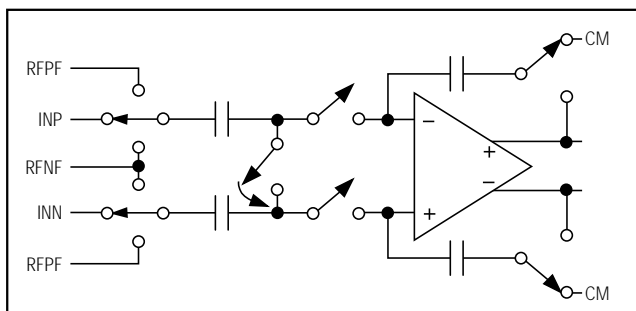

Figure 2. Simplified MDAC Architecture
Fully differential switched-capacitor circuits (SC) are used for both the reference and analog inputs (Figure 2). This allows either single-ended or differential signals to be used in the reference and/or analog signal paths. The signal voltage on these pins (INP, INN, RFN\_, RFP\_) should never exceed the analog supply rail, AVDD, and should not fall below ground.